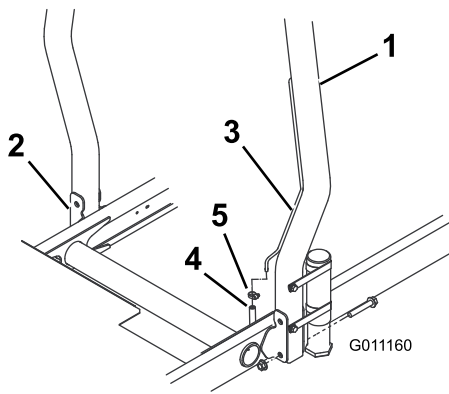

Figure 12
- 1. Lower the roll bar onto the traction unit mounting brackets, aligning the mounting holes. Ensure that the vent tube on the roll bar is on the left side of the machine (Figure 12).
2. Secure each side of the roll bar to the mounting brackets with 2 flange head bolts and locknuts (Figure 12). Torque the fasteners to 81 N·m (60 ft-lb).